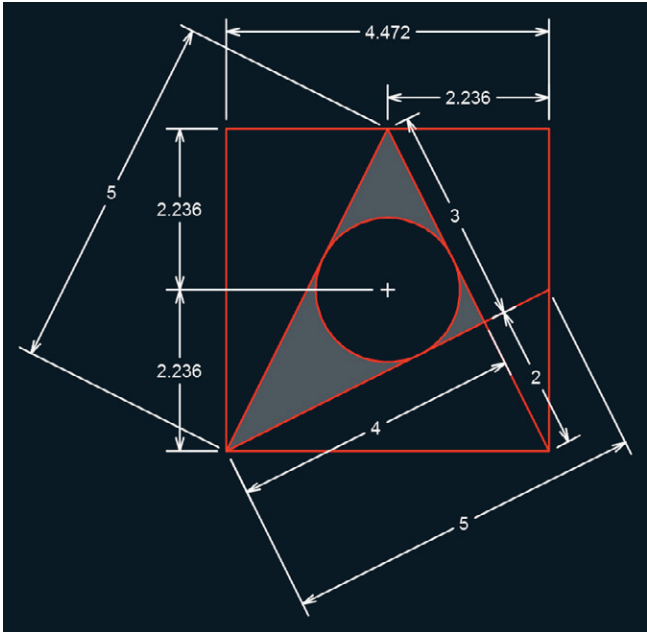

FIGURE 11.16 Adding additional aligned dimensions
8. Add the four additional aligned dimensions shown in Figure 11.16, measuring 2, 3, 4, and 5 units.